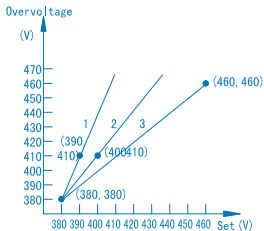
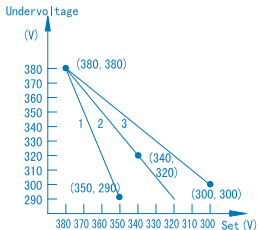

Figure 1 Overvoltage acting curve
Figure 2 Undervoltage acting curve
2.1.5 See Figure 1 and Figure 2 for the relation between voltage and acting point when the protector provides overvoltage and undervoltage protection. See curve 1 for single phase over/under-voltage protection, see curve 2 for two-phase over/under-voltage protection, see curve 3 for three-phase over/under-voltage protection.